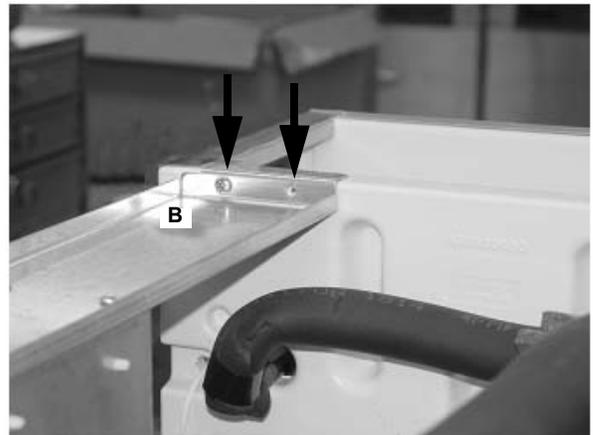

FIGURE 18
15. Remove the 2 screws connecting the top support brace (B) to the evaporator bulkhead (FIGURE 18).